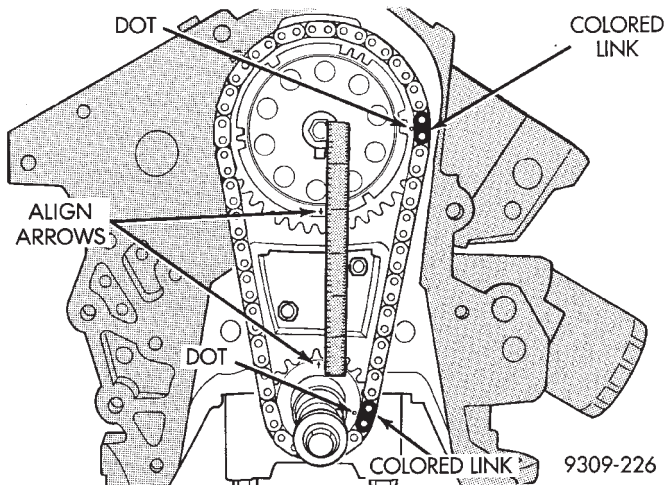

Fig. 5 Alignment of Timing Marks
(11) Using straight edge to check alignment of timing marks (Fig. 5).
(12) Install camshaft bolt and washer. Tighten to 54 N•m (40 ft. lbs.).
(13) Rotate crankshaft 2 revolutions. Timing marks should line up. If timing marks do not line up remove cam sprocket and realign.
(14) Check camshaft endplay. With new thrust plate specification is .0127 to .304 mm (.005 to .012 inches.). Old thrust plate specification is .31 mm (.012 inch.) maximum. If not within these limits install new thrust plate.
(15) Install timing chain snubber. Tighten retaining screws to 12 N•m (105 in. lbs.). **These bolts are 20mm long for this model year, they should not be interchanged with previous year engines.**